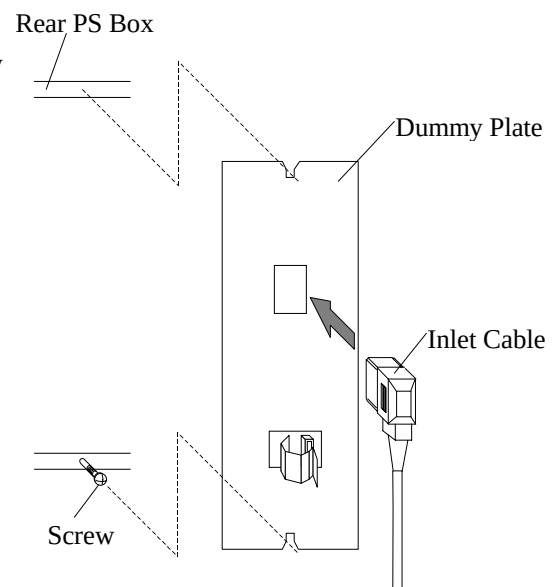

Fig. 4.5-4 Attachment of Dummy Plate.
- b. Attach the dummy plates to the removal locations and fasten the screws. Refer to Fig. 4.5-4.